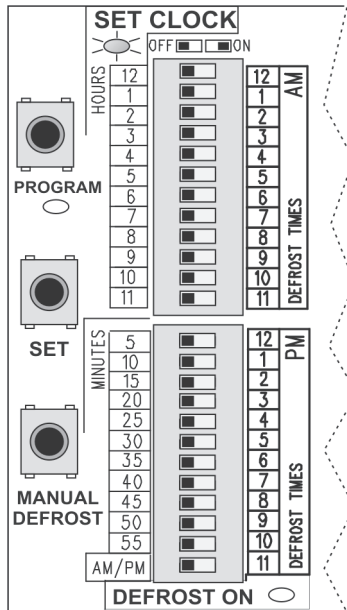

Fig. 15
Begin with the defrost timer on normal Operation Mode: The SET CLOCK light is blinking rapidly and the PROGRAM and DEFROST ON lights are off. If all switches are OFF (Fig. 15), the factory preset defrost schedule is enabled: 2 AM, 8 AM, 2 PM, 8 PM.
- To customize your defrost schedule, begin with all switches OFF (Fig. 15).